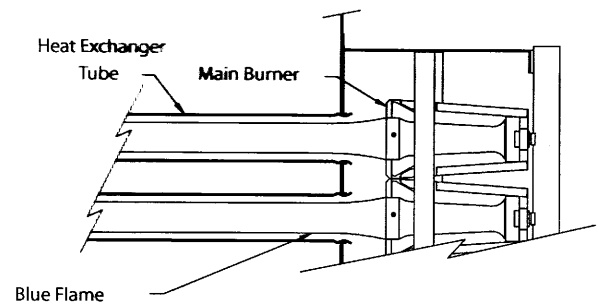

Figure 9
7. Allow the heater to operate for at least five minutes, then observe main burner flames. A hard blue flame extending 12 to 16 inches (305 to 406 mm) into the tube is normal. Slight yellow tipping is acceptable (see Figure 9). There is no air adjustment on inshot burners.